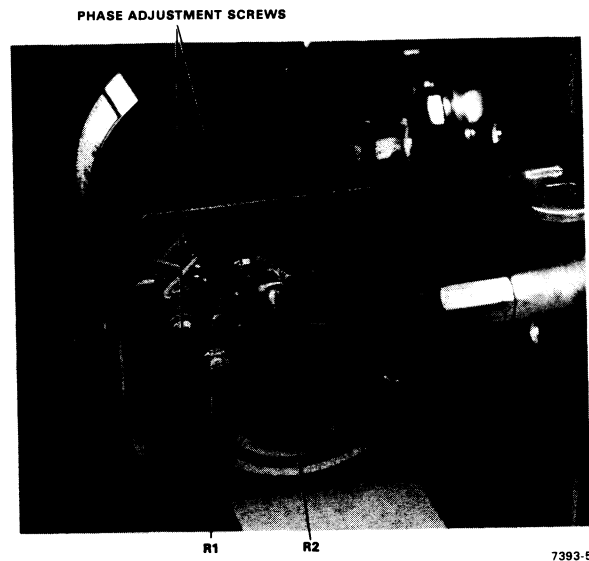
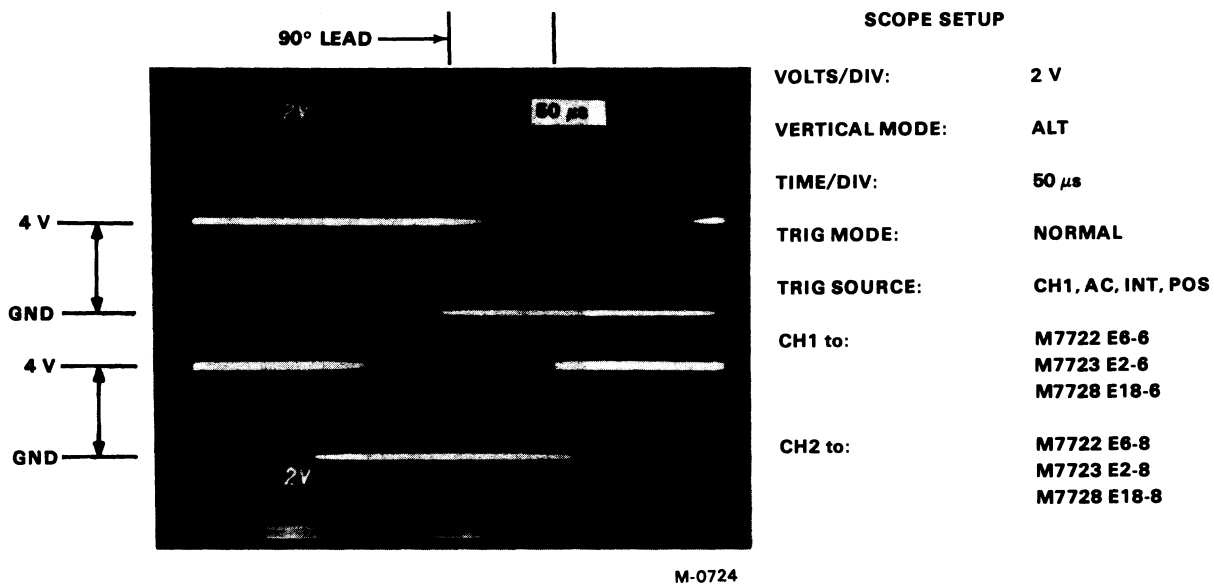

Figure 8-2 Encoder (Rear View)
Figure 8-3 Encoder Phasing Waveshape
14. If the channel 2 signal (Figure 8-1) does not have a 50 percent duty cycle (jitter included), adjust R2 on the encoder assembly (Figure 8-2).
16. Set up scope per Figure 8-3.
17. Channel 2 should lead channel 1 by 90 degrees ± 20 degrees (Figure 8-3). If not, loosen the two encoder screws (Figure 8-2) and reposition the encoder subassembly as required and tighten the screws.